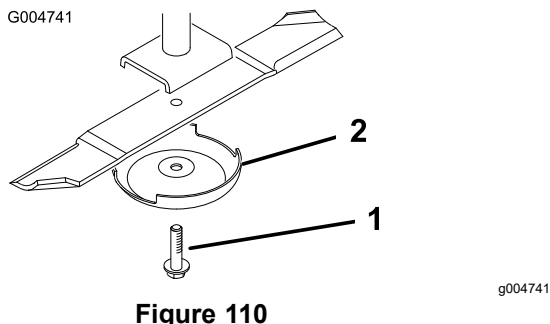

Figure 110
3. Remove the blade bolt, anti-scalp cup, and blade from the spindle shaft (Figure 110).